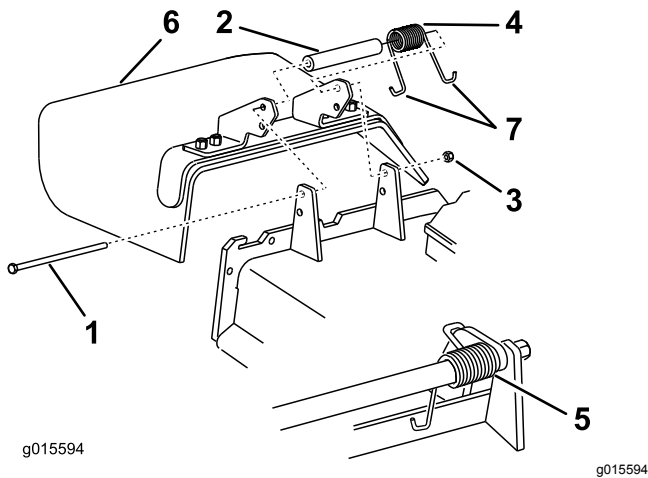

Figure 125
1. Remove the locknut, bolt, spring, and spacer holding the deflector to the pivot brackets (Figure 125).
2. Remove the damaged or worn grass deflector (Figure 125).
Note: Make sure that 1 J-hook end of the spring is installed behind the deck edge before installing the bolt as shown in Figure 125.
6. Place 1 J-hook end of the spring around the grass deflector (Figure 125).